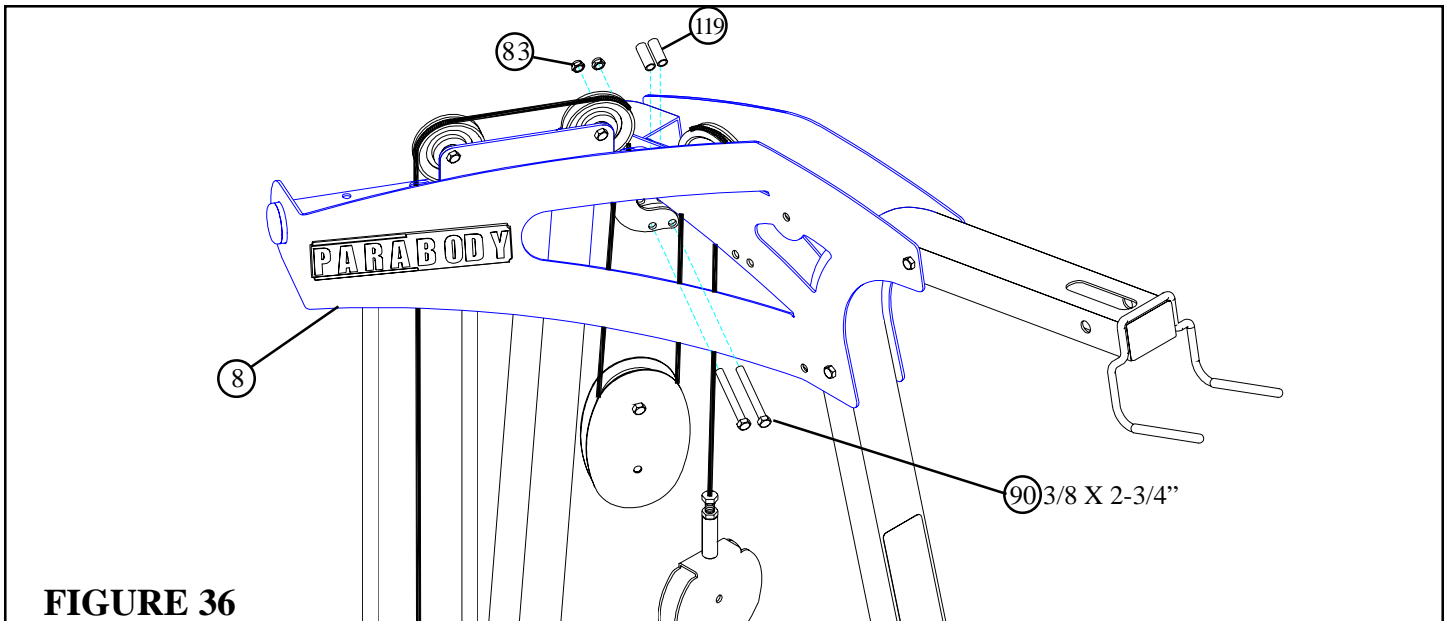

FIGURE 36
- **SECURELY** assemble two 2" NYLON SPACERS (119) to the BOOM BRACKET (8) using two 3/8 X 2-3/4" BOLTS (90) and two 3/8" LOW HEIGHT LOCK NUTS (83) as shown in FIGURE 36.